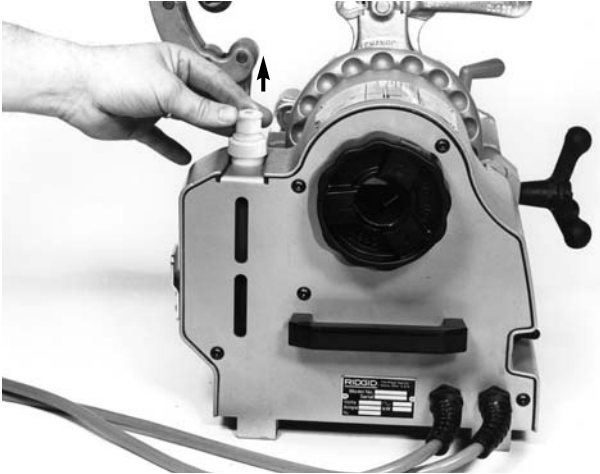

Figure 6 – Reservoir Vent Open
- Pull the vent on the reservoir cap open (Figure 6). Do not thread with the vent closed. This will reduce coolant flow and could cause die chipping and poor quality threads.